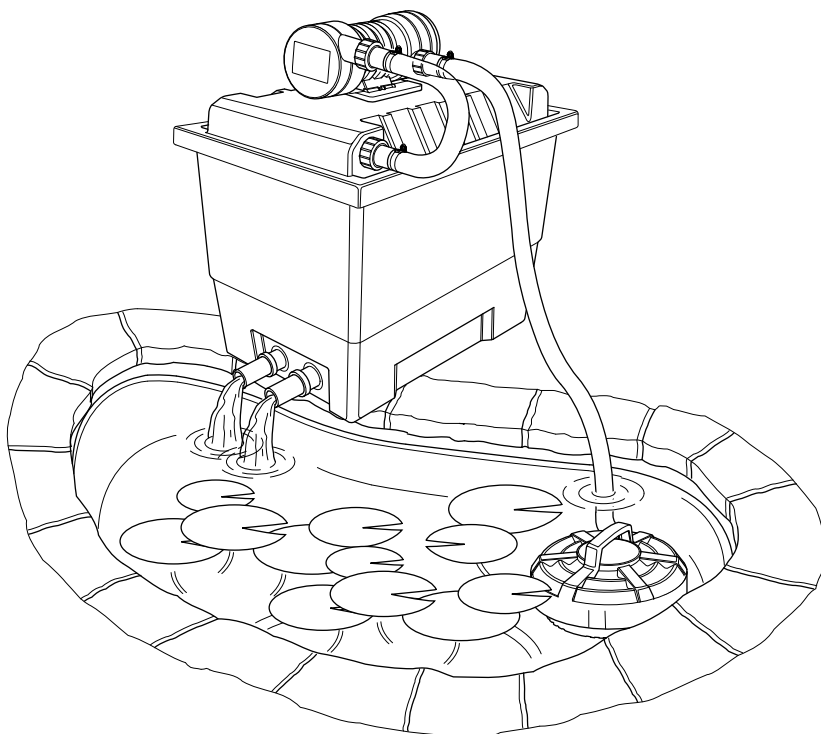

Fig. 1
3.1 The Hozelock Cyprio Vorton UVC can be added to most filter systems before or after filtration, the effect is the same. The water must be pumped through the unit - not gravity fed. A typical installation is shown in fig 1.